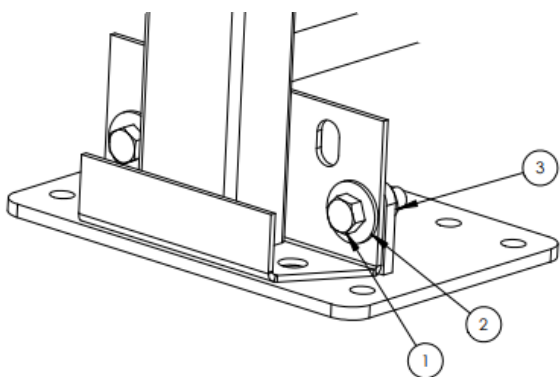

Figure 1 – Plate Mounting
Holding U-Bolt plate up to gantry foot, insert 5/8"-11 x 2" bolts (1) with washers (2) through the bottom set of holes of the gantry feet. See *Figure 1* for orientation.